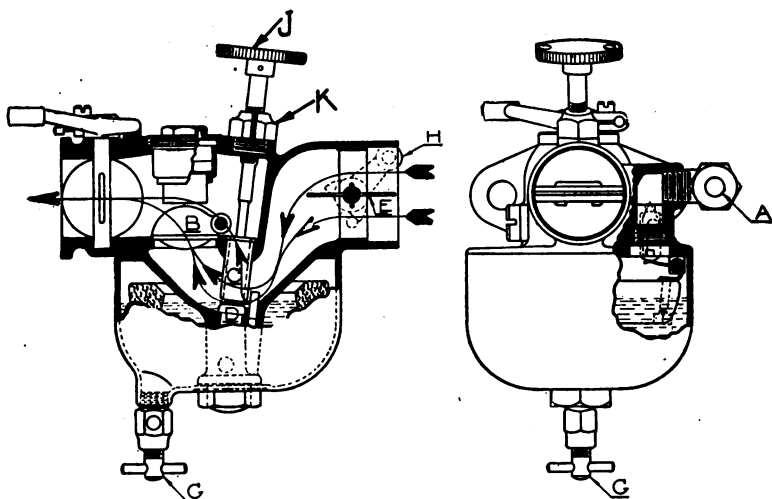
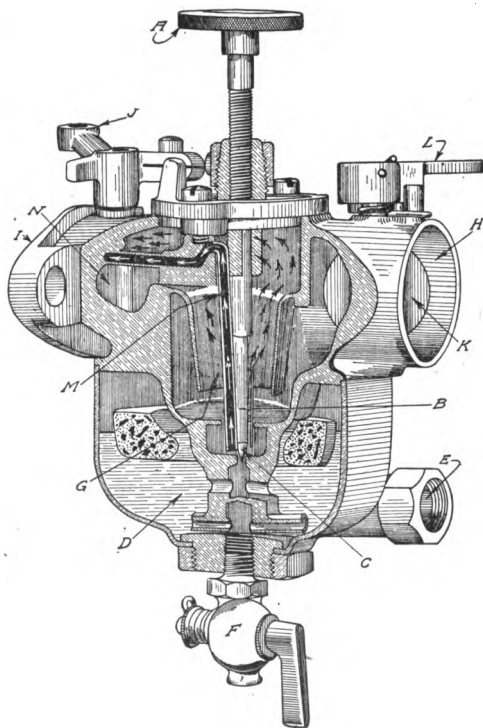
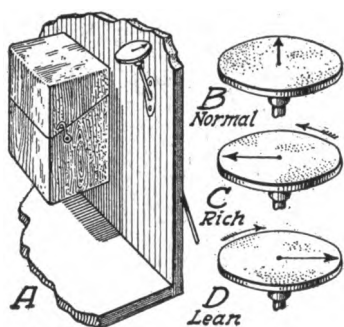
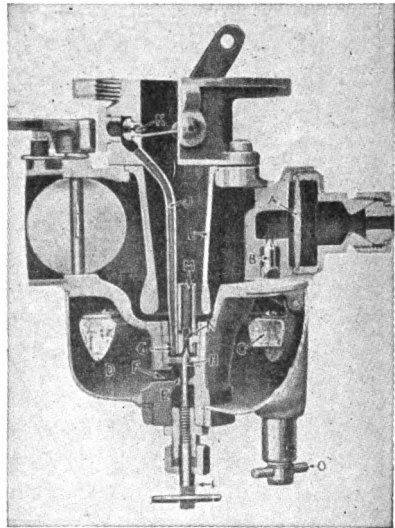

Fig. 88. Drawings Showing Construction of Kingston Model "L2" Carburetor
Fig. 89. Section of Holley Carburetor for Ford Cars
Fig. 90. Dash Adjustment of Ford Carburetor
Fig. 93. Holley Carburetor, Model "K"
**Carburetors on Ford Cars.** On the Model "T" Ford car, there are two very simple forms of carburetor used. They are very much alike in general design and construction, but they are made by different firms. The form shown in Fig. 89 is the Model "G" Holley, while the other form, shown in Fig. 88, is the Kingston. Both forms have been used in about equal quantities by the Ford Company from 1909 to date.
In the Kingston (Fig. 88), "A" is the fuel connection, "B" the air valve, "C" the low speed tube, "D" the spray nozzle, "E" the choke throttle, "G" the drain cock, "H" the lever operating the choke throttle, "J" the needle valve, and "K" the needle valve binder nut. To adjust, warm up the motor, retard the spark fully, open the throttle five or six notches on the steering post quadrant, then loosen the binder nut "K" so the needle valve "J" turns easily. Turn this valve down with the dash
**Dash Adjustment.** The gasoline adjustment is placed on the dash, Fig. 90, the milled head shown being fastened to a long rod whose lower end is attached to the needle valve head A, Fig. 89. Any movement of the milled head moves the needle valve and gives more or less gasoline. After the car has been worked in so that it runs satisfactorily, a file mark
should be made on the face of this milled head to indicate the point at which the engine runs most satisfactorily. This is indicated by Fig. 90, in which A shows the milled headed rod projecting through the dash, and B the mark for satisfactory normal running. In cold weather, it will probably be found necessary to turn the finger wheel one-quarter turn to the left, or counter-clockwise, as shown at C, particularly in starting a cold engine. This movement increases the amount of gasoline and makes the mixture richer. In warm weather, gasoline vaporizes more readily, and it will be found advisable to give the milled head a one-quarter turn to the right, or clockwise, about as shown at D. This admits less gasoline and gives a leaner mixture. This last adjustment is particularly advisable when taking long rides at high speed for it increases the mileage per gallon of fuel.
**Other Holley Carburetors.** As has been stated, the carburetor illustrated in Fig. 89 and just described is a Holley Model "G". This firm also markets a Model "K", which is very similar to the "G", as will be noted in Fig. 93. The biggest differences between these models are: the vertical outlet in place of a horizontal; and the placing of the needle valve at the bottom because of this. In this latter figure, fuel enters by the gasoline pipe through the strainer *A*, past the float valve *B*, into the float chamber *D*, the level being regulated by the movements of the cork float *C*. From there, it passes through the opening *F* into the nozzle well *E*, through the hole *H* past the needle to a level in its cup-shaped upper end which just submerges the bottom of a small tube *J*, with its outlet at the edge of the throttle disc *K*. When the engine is cranked with the throttle nearly closed an energetic flow of air past this point draws liquid fuel which is atomized upon its exit from the small opening at the throttle edge.